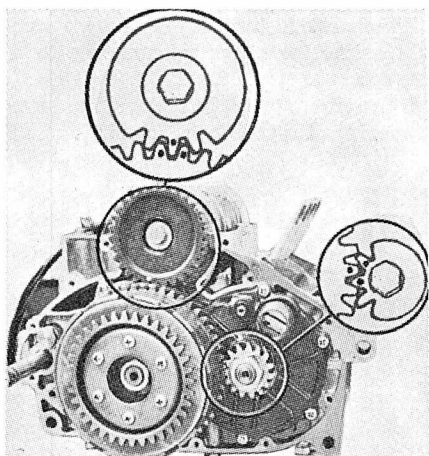
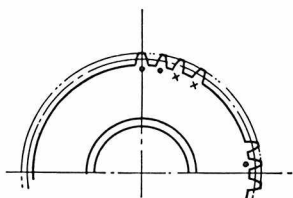
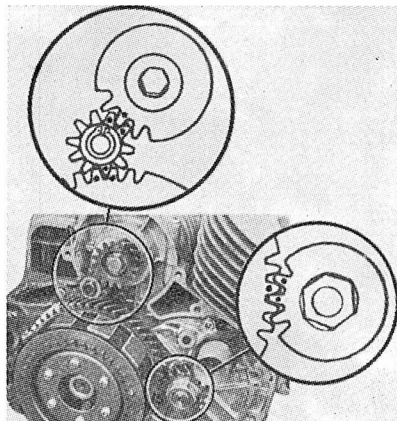

Fig. K3-3—View of timing marks aligned for models that turn alternator at 1/2 crankshaft speed.
Fig. K3-4—View of timing marks used on some clutch gears. Refer to text.
Fig. K3-5—View of timing marks aligned for models that turn alternator at same speed as crankshaft.
**EN04, EN08, EN10 and CDI Alternator Installation.** Alternator is driven by the primary gear on clutch via a Bakelite gear with 30 teeth. Timing marks must be aligned as shown in Fig. K3-3. NOTE: There should be a total of eleven unmarked teeth between marks on clutch primary gear. Some clutch gears are punch marked and "X" marked (Fig. K3-4). These gears are marked to allow installation with either type drive. If both type of marks are present use "X" marks to time engine.
**EN09 and EN11 Alternator Installation.** Alternator is driven by an idler gear with 15 teeth mounted next to clutch primary gear. Timing marks must be aligned as shown (Fig. K3-5) with 13 teeth on clutch gear between timing marks used. If clutch gear with punch and "X" marks is used (Fig. K3-4), align single mark on idler gear between two punch marks on clutch primary gear.